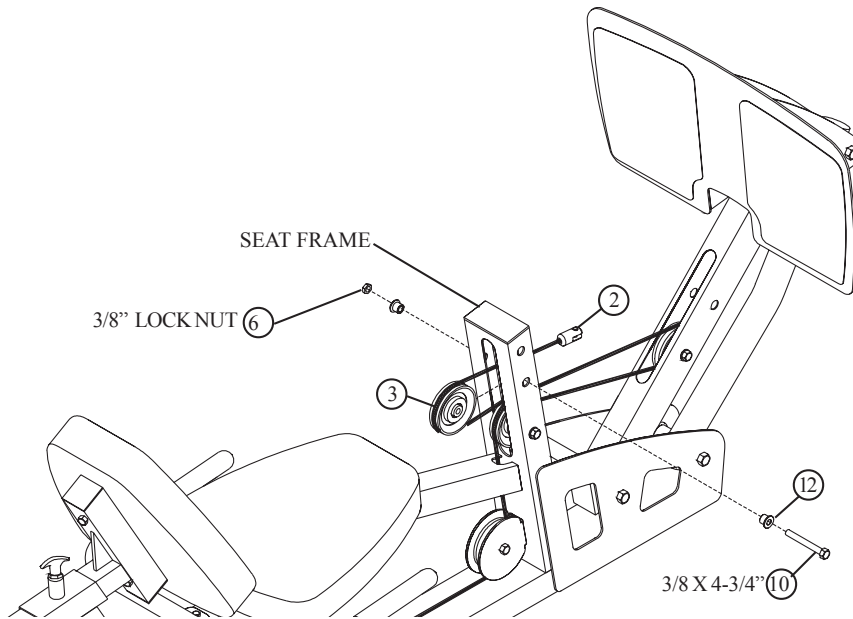

FIGURE 11
- Carefully route the LEG PRESS CABLE (2) around one 3-1/2" PULLEY (3) and **SECURELY** assemble the 3-1/2" PULLEY (3) to the SEAT FRAME using one 3/8 X 4-3/4" BOLT (10), two STEP SPACERS 1-19/32" (12), and one 3/8" LOCK NUT (6) as shown in FIGURE 11. Make sure the CABLE is in the grooves of all the pulleys.